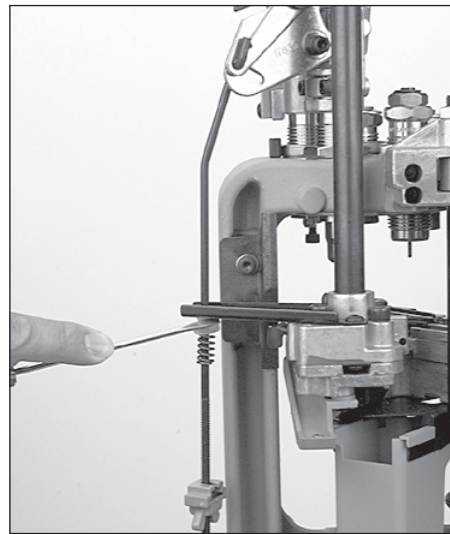

FIG 155
1. Disconnect the failsafe rod **FIG 155**.